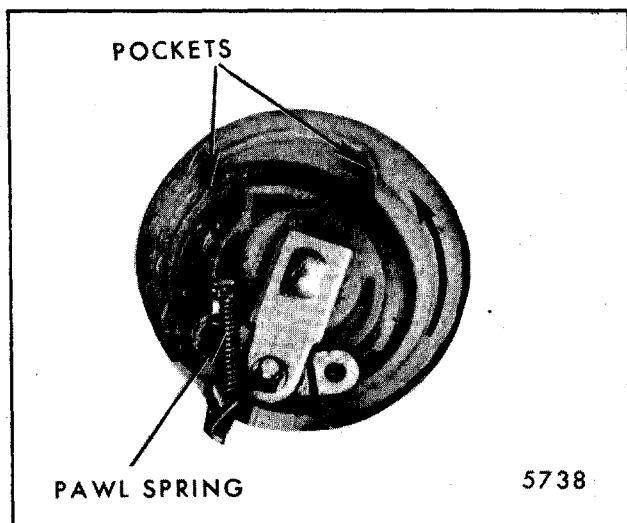

Fig. 2-96-Drive and Lock Pawl Guide Pin Pockets
3. Holding the gear, manually rotate the drive plate in the direction of the arrow until the drive and lock pawl guide pins fit into the gear pockets (Fig. 2-96).
4. Reinstall pawl spring between lock and drive pawls (Fig. 2-96).